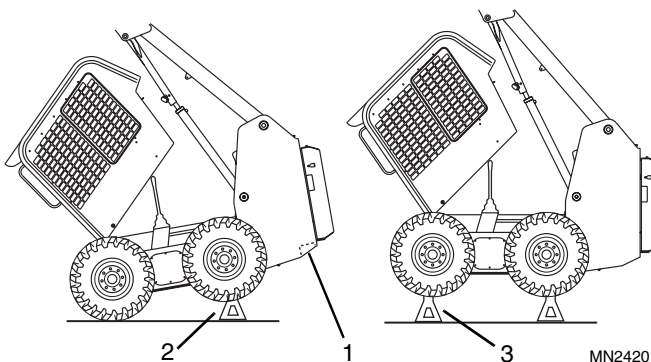

Figure 7-38 Jack Stand Placement
4. Raise the rear of the vehicle with a floor jack. DO NOT place the jack under the hydraulic reservoir or the fuel tank. Place the jack only under the rear crossmember (Fig. 7-38, 1) or chaincase.
5. Place jack stands under the rear left and right frame of the vehicle (Fig. 7-38, 2). If jack stands are not available, support blocks may be used.
6. Lower the rear of the vehicle down onto the jack stands (Fig. 7-38, 2) or support blocks.
7. Raise the front of the vehicle with a floor jack and place jack stands under the front of each chain case (Fig. 7-38, 3). If jack stands are not available, support blocks may be used under the chain cases.
8. Lower the front of the vehicle onto the jack stands (Fig. 7-38, 3) or support blocks.